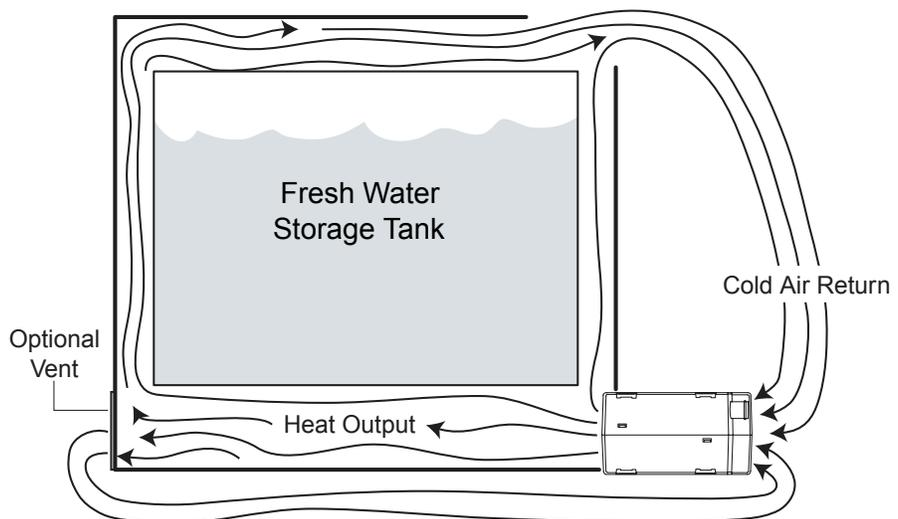

Figure 11
- A. Centralize and position the Fresh Water Tank Heat Exchanger in the Domestic Water Storage Tank Plumbing Bay area so even-heat distribution will be achieved; reference Figure 11.
- B. Sufficient ventilation (cold-air return) must be supplied to the Fresh Water Tank Heat Exchanger; reference Figure 11.